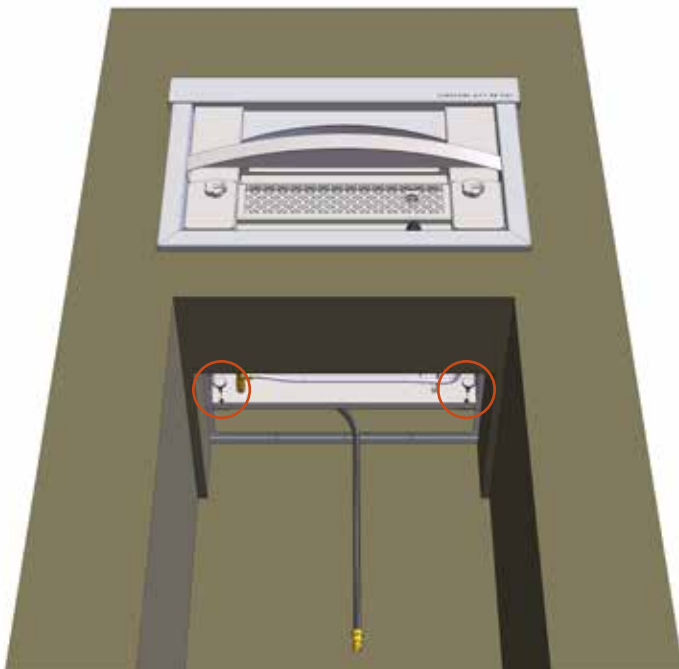

FIGURE 23
- 17.** Slide the oven the rest of the way into the liner. Secure the oven in position using the 2 Kalamazoo-supplied knurled-head screws (Figure 23).
The burners should be visually inspected once a year. To access the burners, first make sure the pizza oven is completely cooled. Ensure the pizza oven control valves are in the OFF position. Turn off and disconnect the main gas supply. Remove the knurled-head screws (Figure 23), and slide the oven out of the liner (Figure 21). Remove the oven chamber section (Figure 5:L), cooking decks (Figure 5:K) and diffusers (Figure 5:J) and set aside. The burners are now exposed. Visually inspect the burners to confirm they are structurally sound.